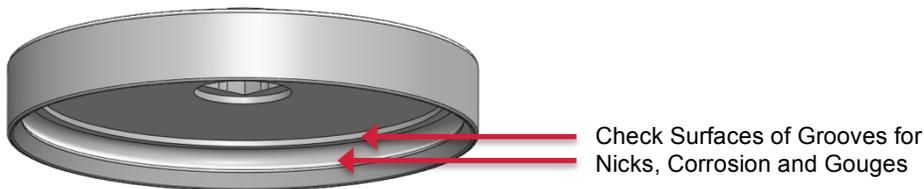

Figure 4-6 Retainer
4.1.4.1 The grooves (Figure 4-6) must be free of gouge marks, corrosion, pits and rust. Since the O-rings must seal against these surfaces, any irregularities can cause the valve to leak. Clean the groove by sanding it lightly with emery paper (400 grit). If this does not effectively clean the groove, replace this part.